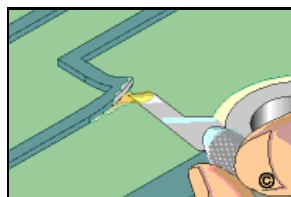

Figure 4: Apply a small amount of Epoxy under the length of the lifted conductor.
3. Carefully apply a small amount of Epoxy under the length of the lifted conductor. Flatten the conductor in place. A Knife or Probe may be used to apply the Epoxy. (See Figure 4).